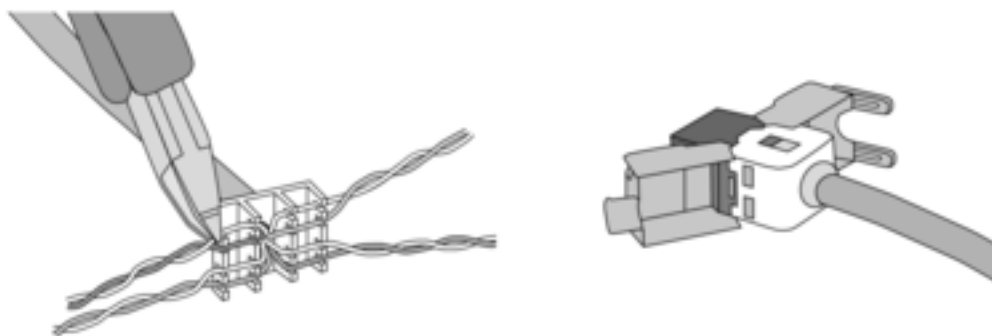

Figure 8: Connection of adapter connector to Ethernet cable
- Connect Ethernet cable to the Ethernet adapter plug. To do this, strip the Ethernet wires, do not skin, and insert into the cover of the adapter plug. Shorten any wires that are jutting out and push the cover onto the adapter plug in the correct position (figure 8).
- Connect the supplied Ethernet adapter cable to the terminal (32) and Ethernet adapter plug.